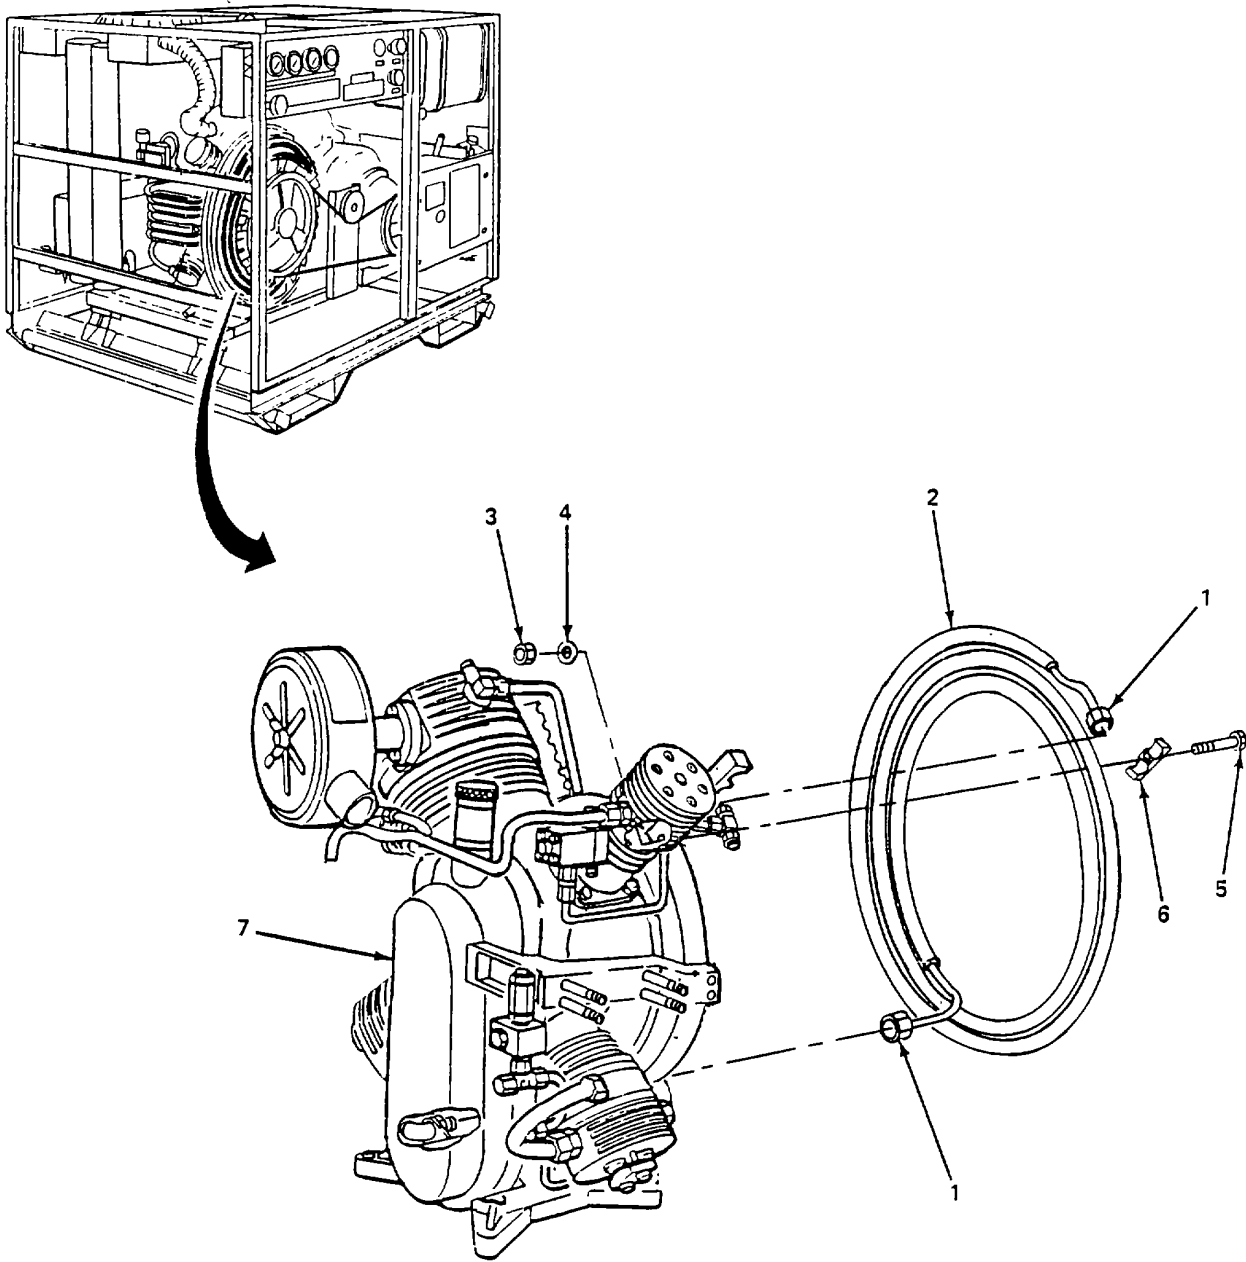

Figure 5-18. Compressor Aftercooler, Replace.
- (n) Tighten fitting nuts (12) and (13).
- (o) Secure pressure lines (16) and (17) to frame withty-wraps.
- (p) Install line (11) and tighten fitting nuts (9) and (10).
- (q) Install two brackets (8) and secure with bolts (7), washers (6), and nuts (5).
- (r) Connect and tighten coupling nut (3) on cylinder head (4).
- (s) Connect and tighten coupling nut (1) on intercooler (2).
- (4) Aftercooler. (figure 5-18)